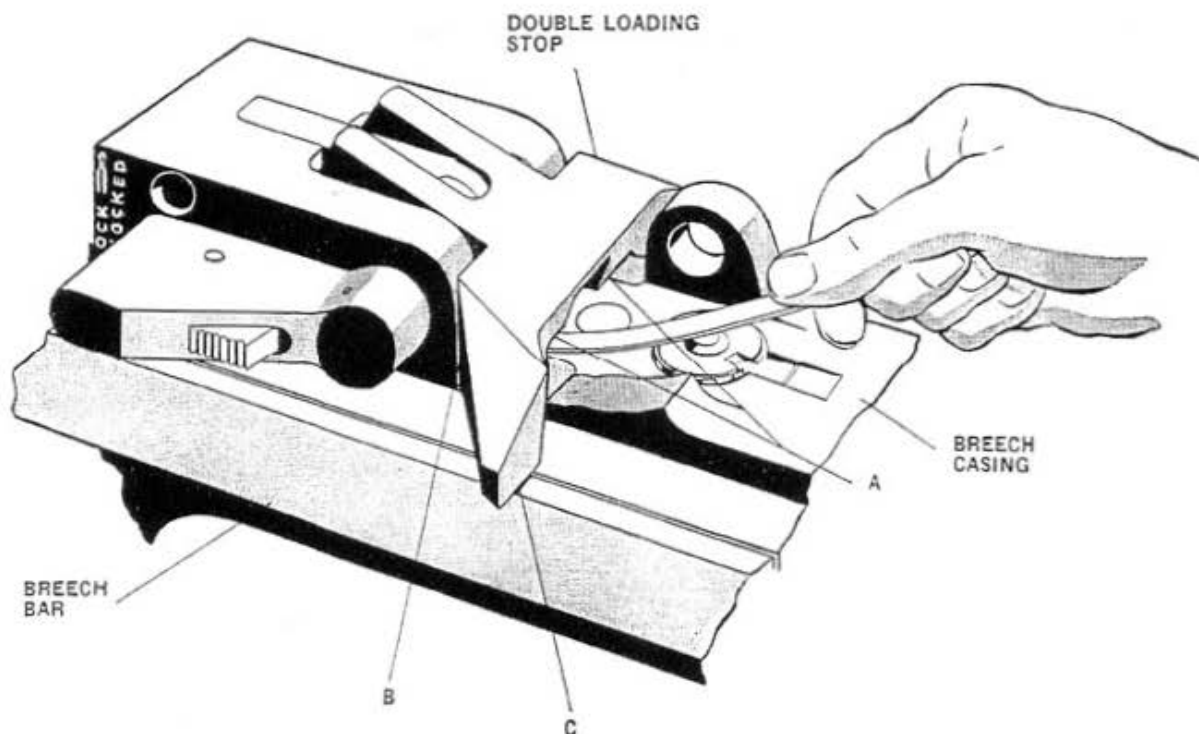

Figure 96—Checking Operation of Double Loading Stop (OE-1054)
When double loading stop (OE-1054) is pressed down at the rear so that the vertical faces contact breech casing (OE-1040) at (B), Figure 96, the clearance at (A) should be .001 to .005. This can be checked by inserting feeler stock between the stop and breech casing as shown.